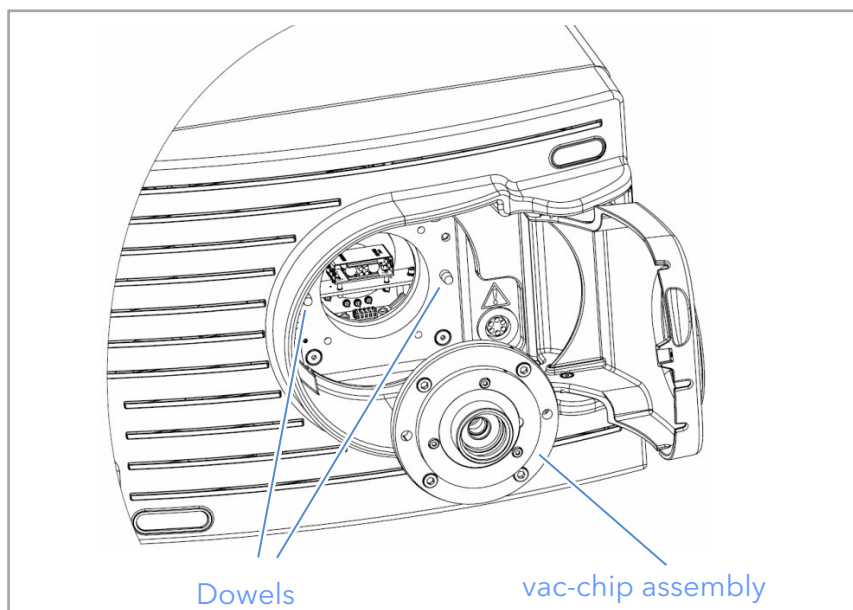

Fig. 9 The vac-chip assembly being installed on the MiD
2. Locate the vac-chip flange on the SFD using the dowels as shown in Fig. 9. Gently push the vac-chip flange into place, do not force the flange into position.